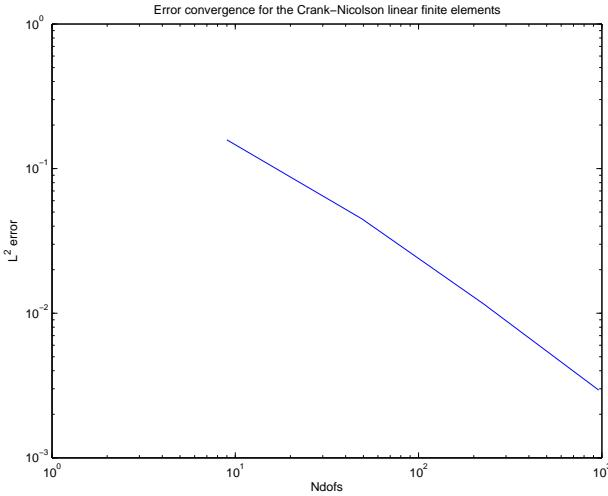

Figure 5.2: Convergence plot for the Crank-Nicolson method.
**Solution:** To equilibrate the time-stepping and spatial discretization errors in  $\mathcal{O}(\Delta t^2 + \Delta x^2)$ , we require  $\Delta t \sim \Delta x$ , i.e.  $\Delta t \sim \sqrt{N}$ , where  $N$  is the total number of degrees of freedom. See Listing 5.6 for the code and Figure 5.2 for the convergence plot. We observe the first order convergence with respect to the number of degrees of freedom, which asymptotically scales as  $\mathcal{O}(\Delta t^2)$ , or, equivalently as  $\mathcal{O}(\Delta x^2)$ , as expected.